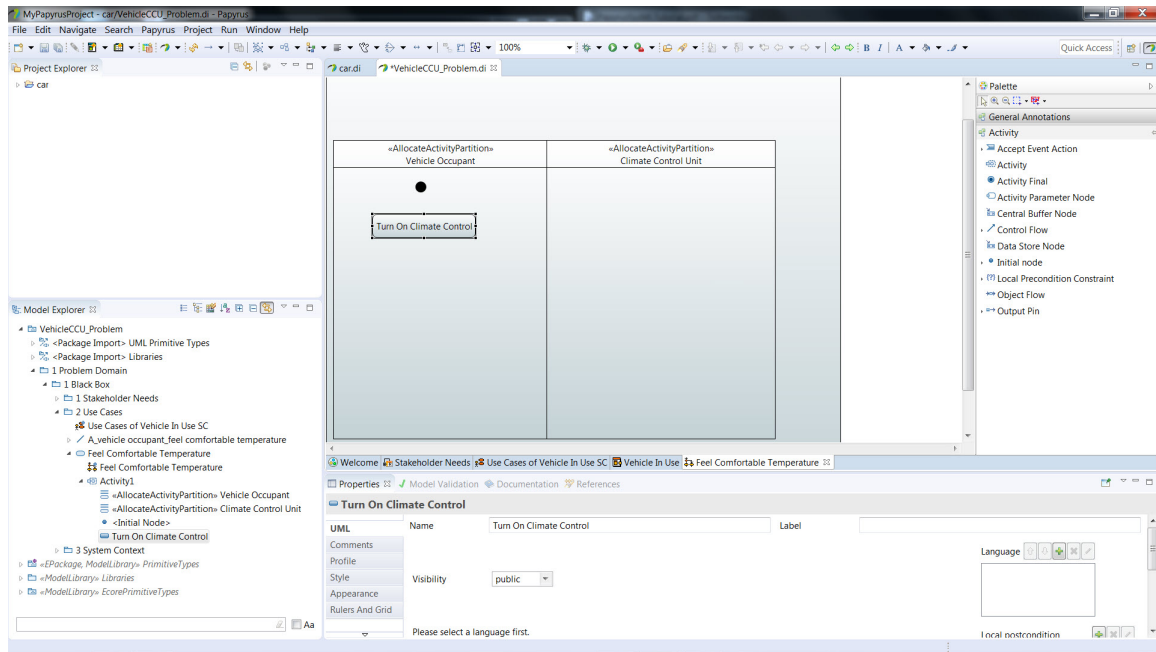

Figure 48: *Turn On Climate Control* Action in Activity Diagram
17. Click and Drag the *Turn On Climate Control* action from the *Model Explorer* window to the *Vehicle Occupant* activity partition underneath the initial node. The *Turn On Climate Control* action should now appear on the activity diagram (figure 48).